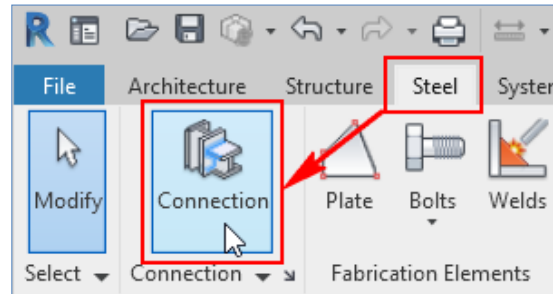

FIGURE 31: SELECTING THE COLUMN TO INSERT THE BASE PLATE CONNECTION
1. Select one or more steel sections to insert the connection and then from the **Steel** ribbon tab > **Connection** ribbon panel, click the **Connection** button, as shown in Figure 31. This figure also shows the column selected to insert the base plate connection.